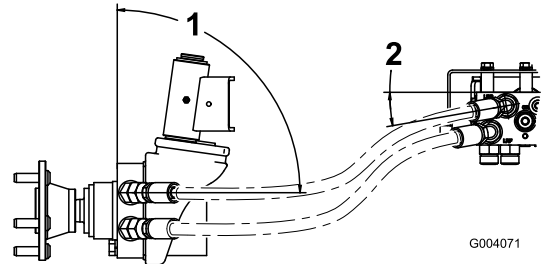

Figure 7
- Route the 2 left hoses to the left wheel motor. Connect the upper manifold hose to the upper wheel motor fitting and the lower manifold hose to the lower wheel motor fitting (Figure 7). If the hoses are not properly routed they may come in contact with the tires or rear bumper which will cause damage to the hoses.